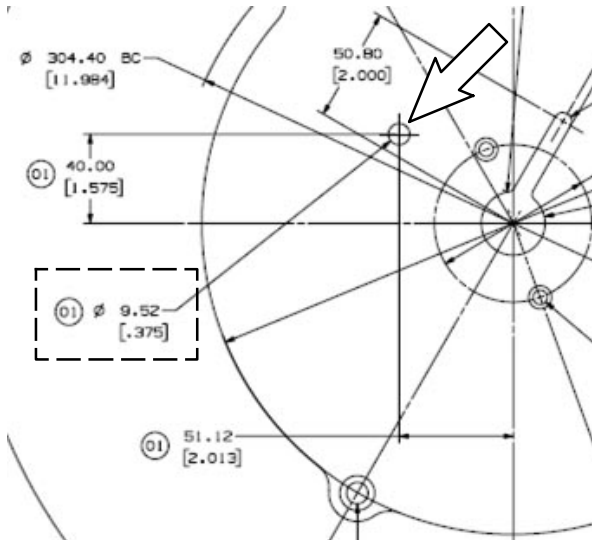

FIG. 6
3. Drill a 0.375 in. (9.52 mm) into the filter weldment (for installing black wire (5)). (Fig. 6)